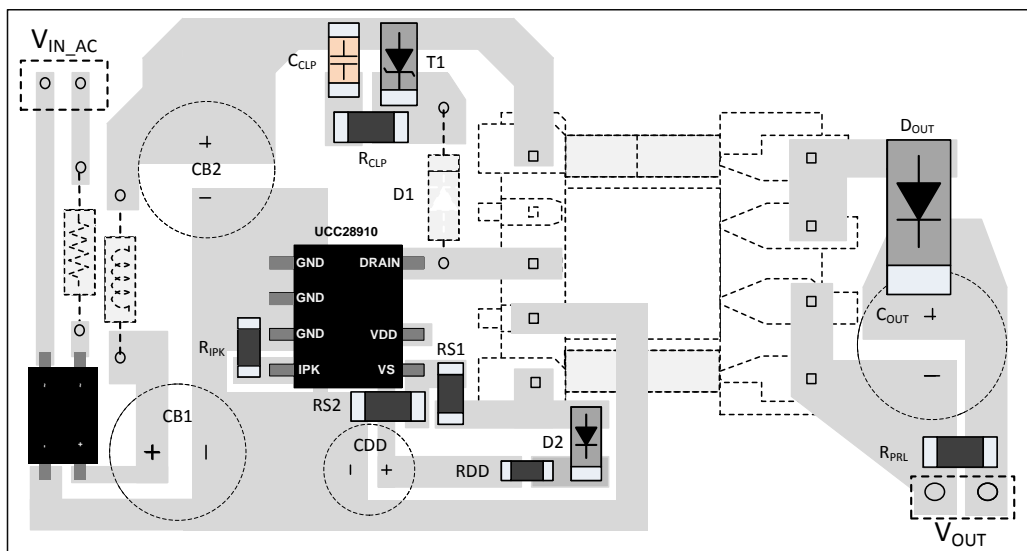

Figure 41. UCC28910 Layout Example
5. Place the auxiliary voltage sense resistor divider (R_{S1} and R_{S2} in Figure 41) directly on the VS pin keeping traces as short as possible.